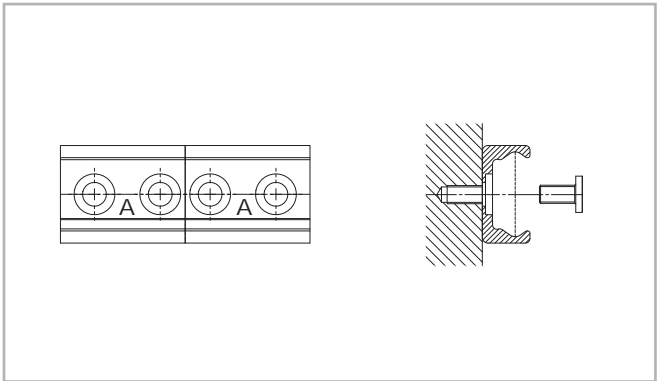

Fig. 115
- (1) Fix the individual rails on the mounting surface by tightening all screws except for each last one on the rail joint.
- (2) Install the end fixing screws without tightening them (see fig. 115).